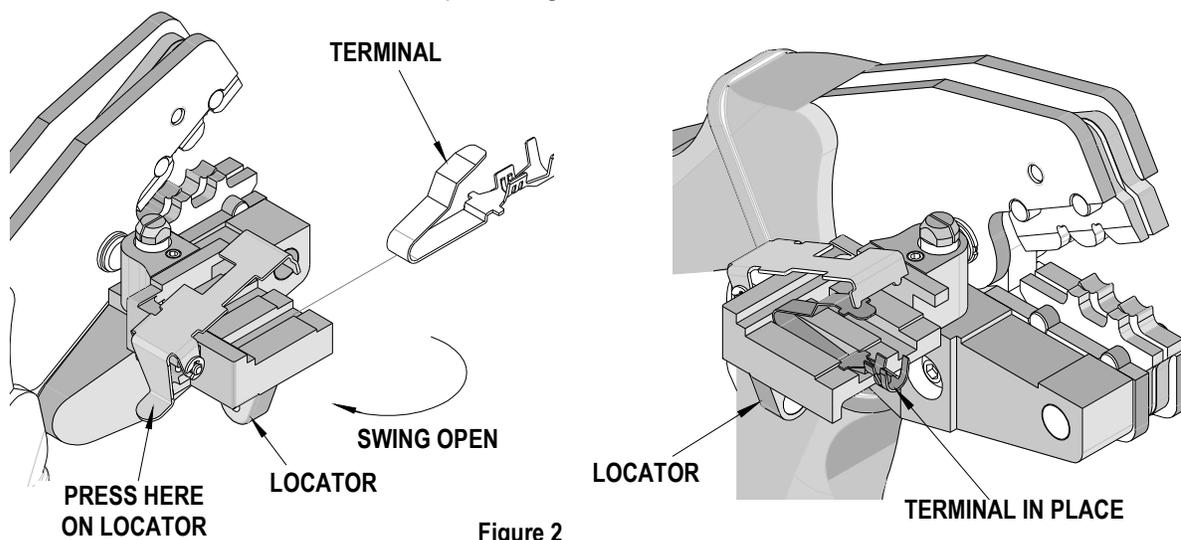

Figure 2
2. Swing the terminal locator away from the crimp tool shown in Figure 2. Some terminals with large insulation grips may interfere with the crimp tooling when swinging the locator into position. The terminal must then be loaded into the locator in the closed/crimp position.
3. When using the locator, press down on the wire stop on the locator as shown in Figure 2. Insert the terminal into the proper nest opening. Make sure when choosing the nest opening, it will correspond with the A, or B profile on the hand tool.